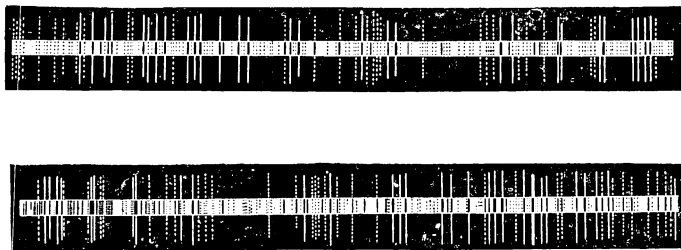

FIG. 408.—The bright line spectrum of iron and its coincidences with some of the dark lines of the solar spectrum.
(B) If light from, for example, an arc light is sent over a gas flame containing *sodium* vapor, a *dark line* appears in the spectrum—in the exact position in which the yellow sodium line appeared. It seems that the sodium vapor removes from white light the same wave lengths that it itself produces. This absorption is supposed to be due to sympathetic vibration; just as a tuning fork it set in vibration by the waves of another fork in unison with it, at the same time absorbing the wave energy, so in the gas flame the sodium particles absorb the wave motion of the same vibration rate as that emitted by them. The fact that the spectrum of sunlight contains a great many dark lines is believed to indicate that the sun is surrounded by clouds formed by the vaporization of the various substances in the sun itself. By comparing the dark lines of the solar spectrum with the *bright-line spectra* of various substances found in the earth, such an exact correspondence of the lines is found that the presence of the vapor of these substances about the sun is considered proved. (See Fig. 408 which shows the exact correspondence between the bright-line spectrum of iron vapor and the dark lines appearing in a portion of the sun's spectrum.) The spectra of the stars also contain certain dark lines. Thus the presence of the corresponding substances in distant stars is considered as determined.